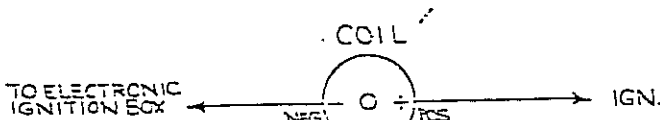

FIGURE 6
- Disconnect wire from negative (-) terminal on Coil. (See figure 6.)